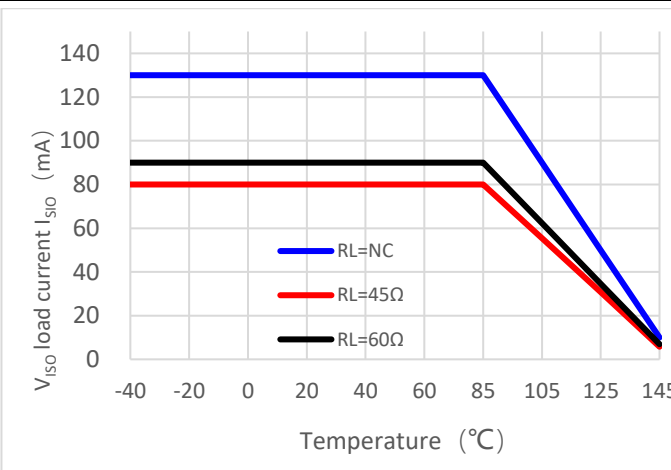

Figure 7-12.
- The available output current from V_{ISO} will be reduced when $T_A > 85^\circ C$, see Figure 7-12.the maximum output current of V_{ISO} vs. temperature.
The integrated DC-DC converter provides up to 650mW of isolated power with +5V fixed output voltage configuration. The maximum output current from V_{ISO} is shown as Table 9-3. Note that the I_{ISO} value in Table 9-3 is the maximum output current at +25°C. With the increase of temperature, especially when the temperature exceeds +85°C, the maximum load current will be decreased, see Figure 7-12. Maximum output current from V_{ISO} at different temperature and bus load.